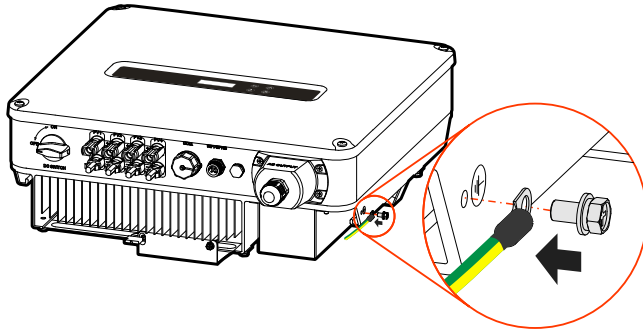

Figure3-15 External grounding wire connection
- Step 2 Connect the crimped grounding wire to the external grounding terminal by stainless steel combination bolt M5*12, as shown in Figure3-15.